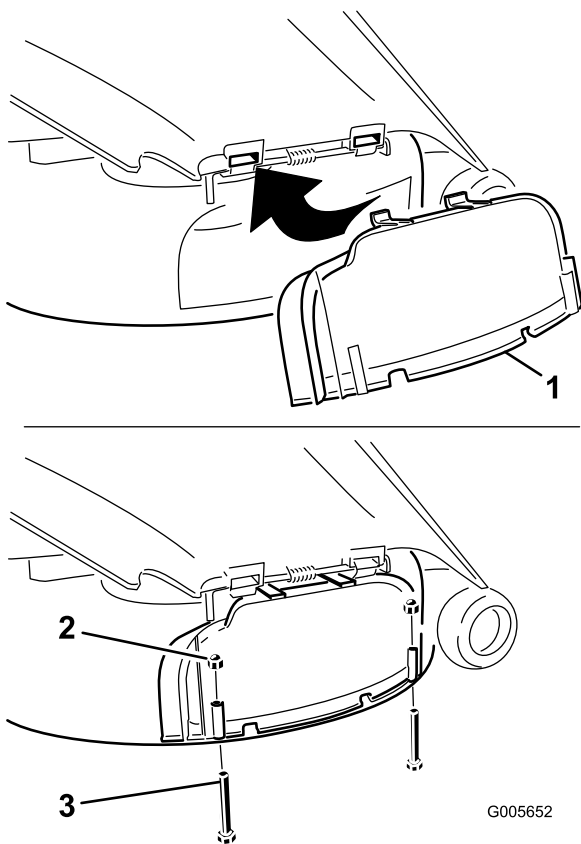

Figure 24
3. Lift the grass deflector and slide the tabs on top of the discharge cover under the grass deflector retaining rod. Rotate the discharge cover down over the opening, and onto the lower lip of the mower (Figure 24).
- Secure the discharge cover to the lower lip of the mower with two bolts (1/4 x 2-1/2 inches) and two cap nuts (1/4 inch) as shown in Figure 24.